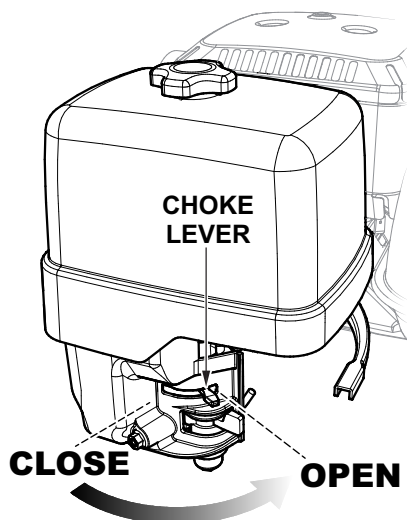

Figure 14. Engine Choke Lever (Open)
6. If starting a warm engine or the temperature is warm, place the choke lever (Figure 14) in the **OPEN** position.
9. Make sure the choke lever has been placed in the **OPEN** position (Figure 14) before operating the power buggy.